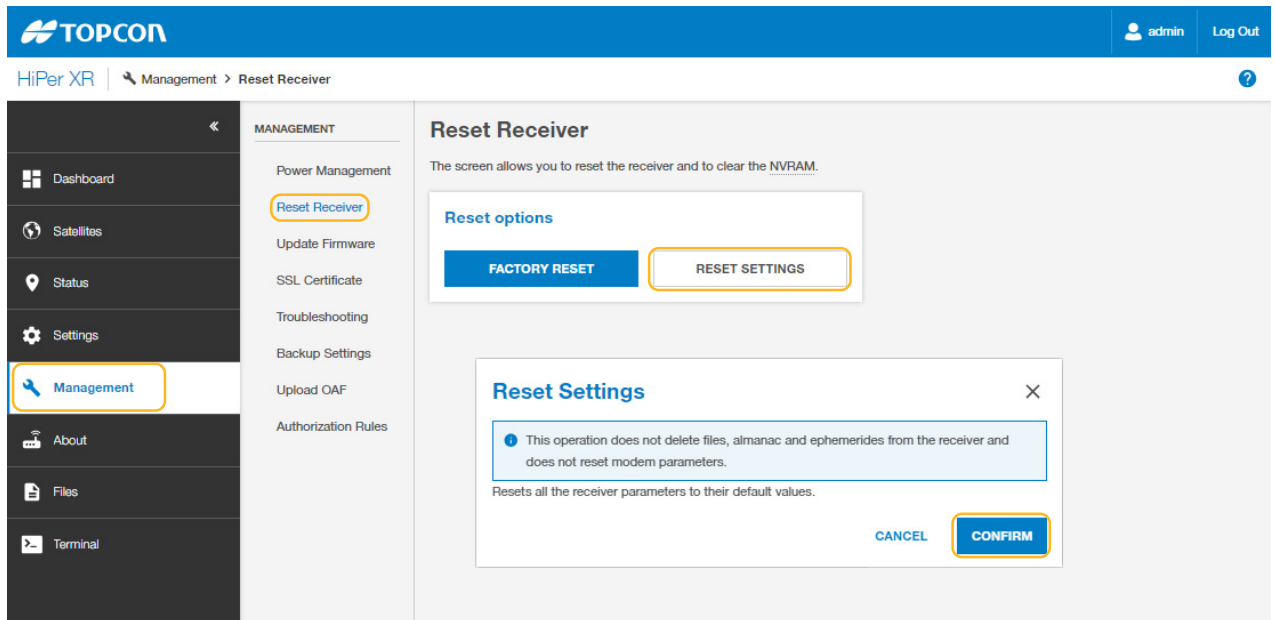

Figure 2-31: Reset Parameters
1. Connect the HiPer XR GNSS receiver to a field controller or computer and open the on-board web UI (Figure 2-31).